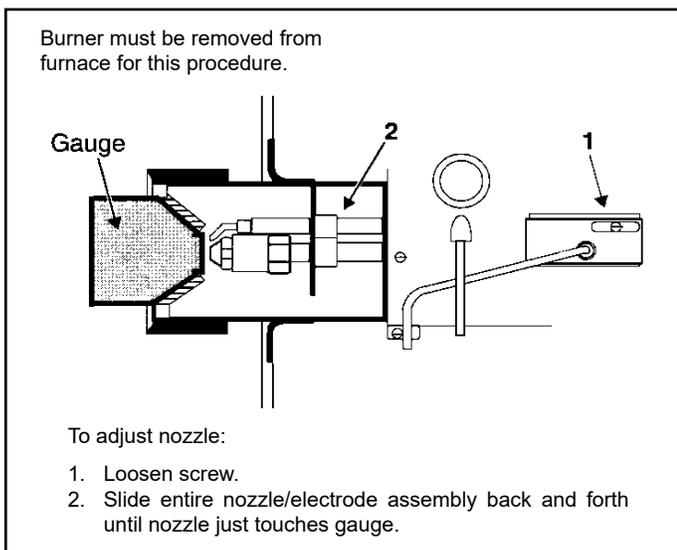

Figure 12. Beckett Oil Burner Nozzle Adjustment
Proper nozzle and electrode depth and alignment are essential for proper burner operation. Figure 12 shows the proper adjustment procedure using the Beckett "T" gauge.
2. Nozzle adjustments are made by sliding the entire nozzle assembly forward or backward within the blast tube (see Figure 12).